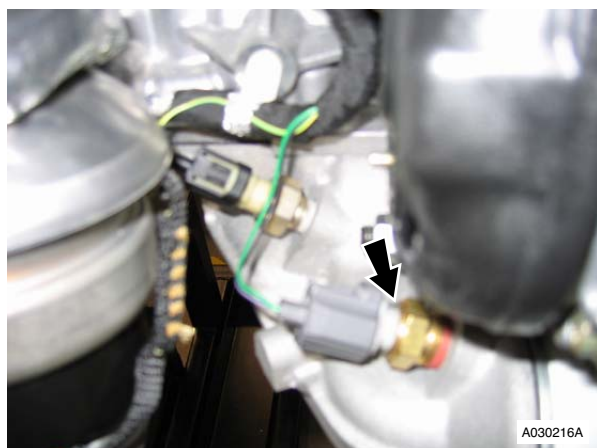

Figure 2
3. Disconnect multiplug from engine electric coolant temperature sensor (refer to Figure 2).